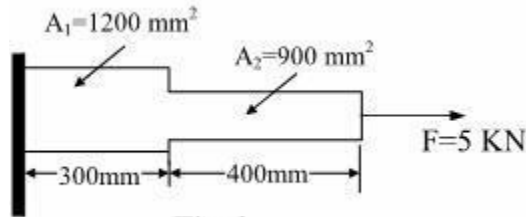

Fig. 3
3. a) Consider axial vibration of the Aluminum bar shown in Fig.3, (i) develop the global stiffness and (ii) determine the nodal displacements and stresses using elimination approach and with help of linear and quadratic shape function concept. Assume Young's Modulus $E = 70\text{Gpa}$.